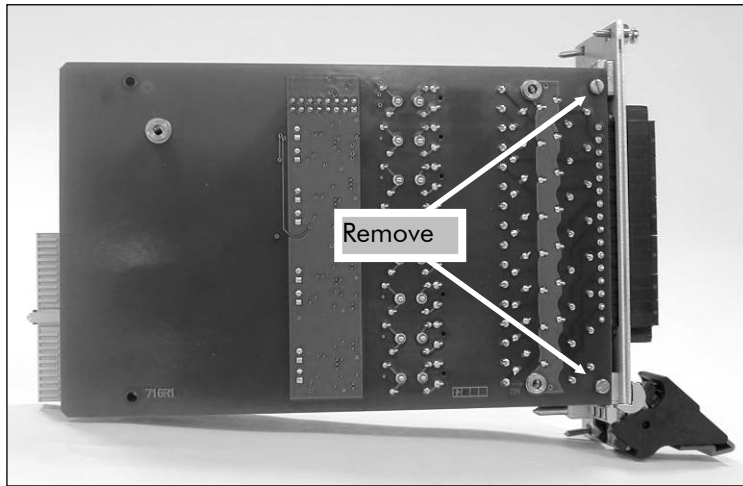

Figure 14 - P31 Module Disassembly
2. Note: If you only need access to the jumpers for configuring the digital output relays, there is no need to remove PCB 716, and you may skip this step. Otherwise, (for access to the range jumpers for input points 9-16) remove the two screws indicated in Figure 14.